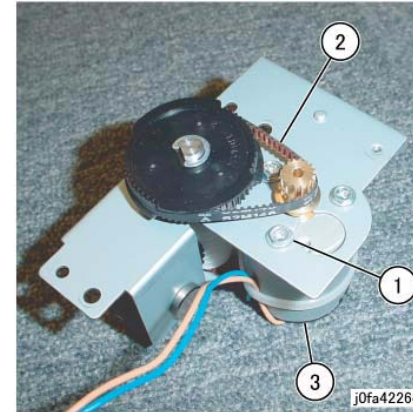

Figure 4 Removing the Stacker Motor (j0fa42264)
8. Remove the Stacker Motor. (Figure 4)